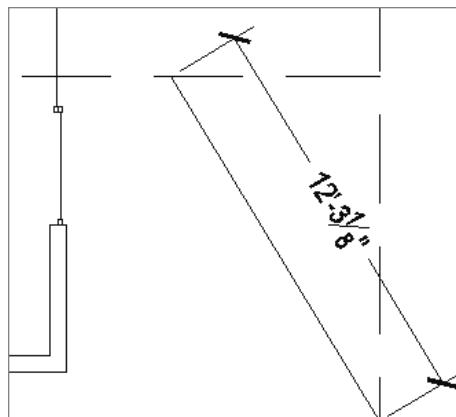

FIGURE 12.39 An aligned dimension added to the cabin drawing
5. Click to place the dimension. Your drawing should look similar to Figure 12.39.